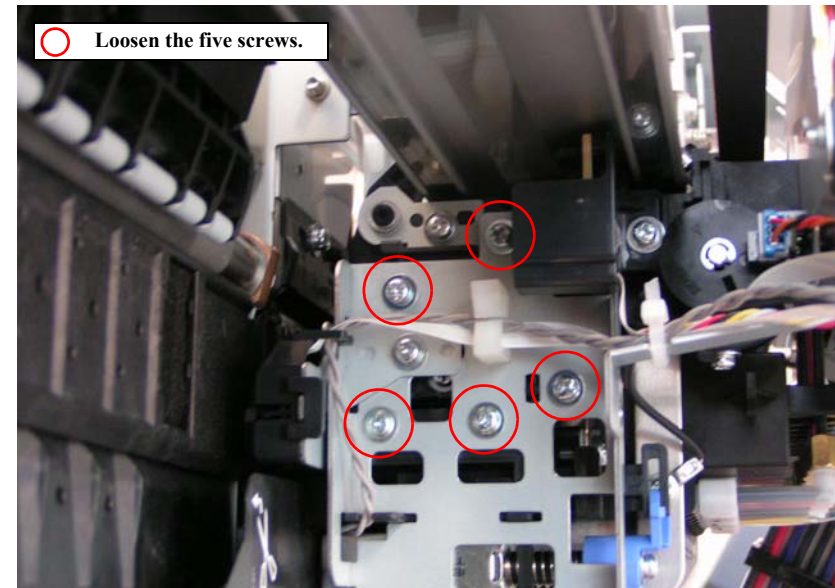

Figure 5-8. Cutter Position/Height Adjustment (1)
2. Loosen the five screws shown in Figure 5-8 that secure the Cutter Unit to the Carriage Unit so that the Cutter Unit position can be adjusted.